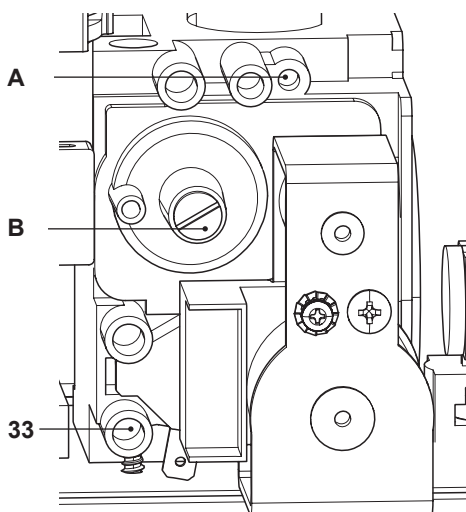

Fig. 7.6
- When the boiler is switched off (out of order), check the supply pressure by using the 33 point in Fig. 7.6 and compare the value read with that reported on the Gas supply pressure table in the "Technical Data" section (pag. 30 Inovia 16S, pag. 32 Inovia 25S).
- Close well the pressure point 33 in Fig. 7.6.